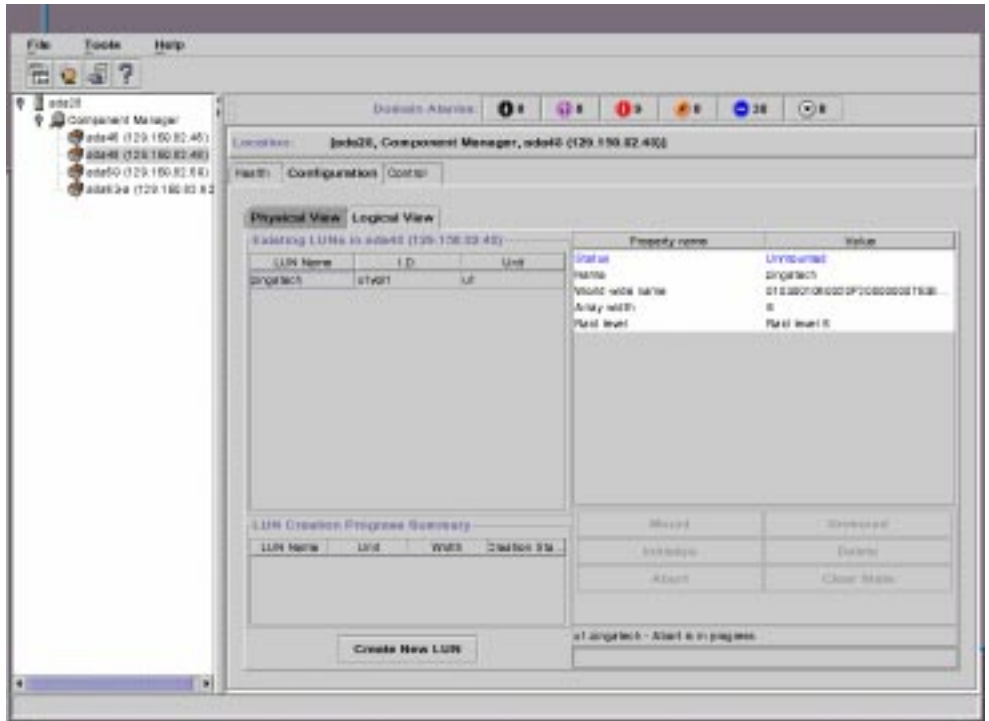

FIGURE 3-17 Created LUN Operations
2. Start the initialization process by clicking the Initialize button as shown in FIGURE 3-17.
See FIGURE 3-17.